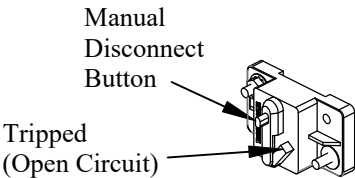

Figure 2: Circuit breaker.
2. **Disconnect** the power cable from the positive side of the battery or manually **Trip** the circuit breaker (Figure 2).